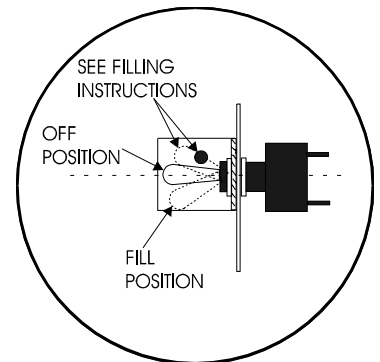

Fig. 4
Make sure the power switch (Fig.1 Item #14) is in the off (middle) position before connecting the power supply cord to prevent damage to the machine. Refer to Fig. 4 on page 8)
- To fill the water tank, press down and hold the power-fill switch located on the rear of the coffee appliance until water flows from the brew cone into the empty glass, stainless steel decanter or thermos. Release the power-fill switch when water starts flowing into the vessel. (See Fig. 4)